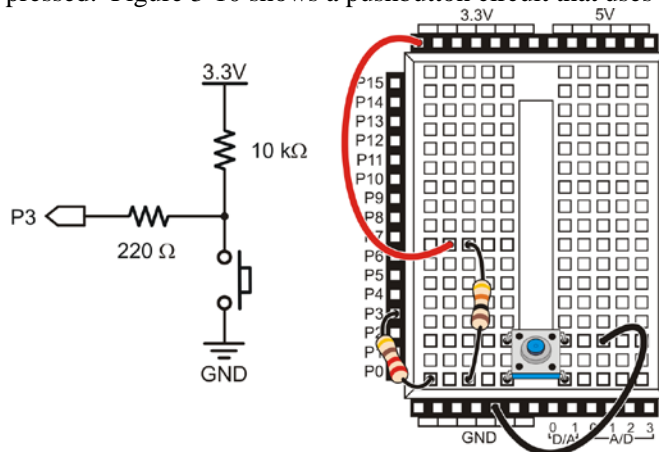

Figure 3-10
The circuit you just finished working with has a resistor connected to GND, called a *pull-down* resistor because it pulls the voltage at P3 down to GND (0 volts) when the button is not pressed. Figure 3-10 shows a pushbutton circuit that uses a *pull-up* resistor.
- ❑ Modify your circuit as shown in Figure 3-10.
Active-low vs. Active-high: The pushbutton circuit in Figure 3-10 is called *active-low* because it sends the Propeller a low signal (GND) when the button is active (pressed). The pushbutton circuit back in Figure 3-7 is called *active-high* because it sends a high signal (3.3 V) when the button is active (pressed). The “active” direction will always be opposite the “pull” direction.